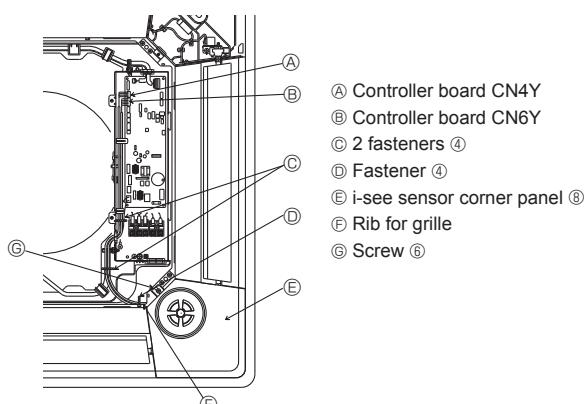

Fig. 9-10
- ① Refrigerant piping of the main unit
- ② Drain piping of the main unit
- ③ Initial position of the corner panel(logo attached)
- ④ Initial position of the levers on the intake grille
- ⑤ Receiver (Only PLP-6BALM, PLP-6BALME Panel)
- ⑥ i-see sensor(PLP-6BAE, PLP-6BAMDE, PLP-6BALME panel)
9.6. Installation of i-see sensor corner panel (Fig. 9-10)